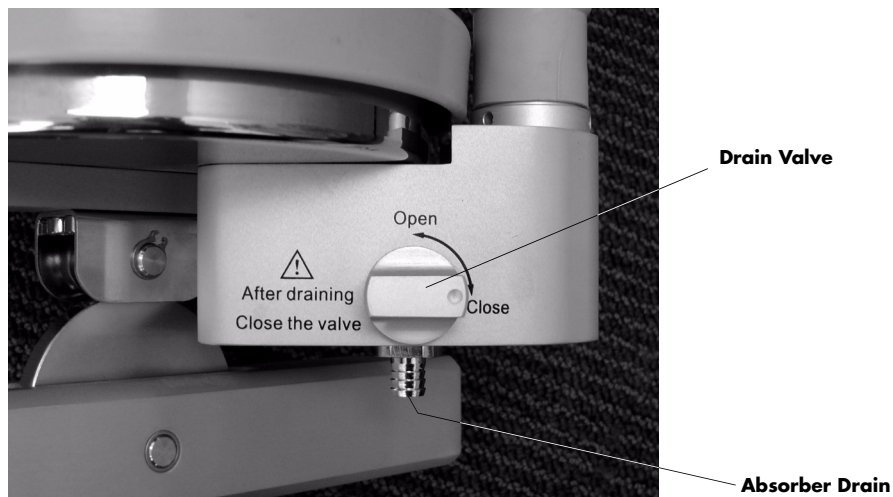

FIGURE 3-18 Absorber Drain Valve (Close Up View)
2. Refer to FIGURE 3-18. While holding a small cup below the drain, turn the valve to the **Open** position and collect any water that may have gathered. Turn the valve to the **Close** position and discard the water.